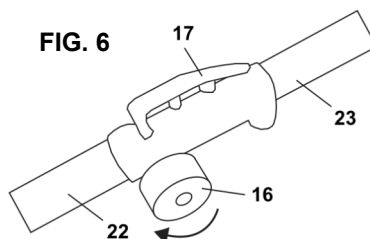

FIG. 6
3. Press the locking lever (17) and insert the lower shaft (22) into the upper shaft (23). The locking lever must engage in the slot of the lower shaft (Fig. 6).
4. Secure the connection by tightening the locking knob (16) (Fig. 6).